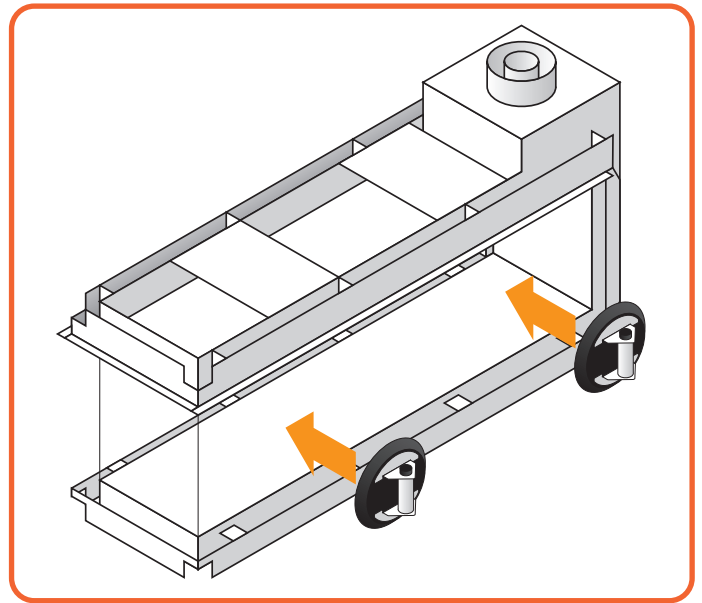

Figure 10.5 - Put on the suction cup
- Put the section cup on the glass and make sure it is properly vacuumed, so it will not come off. (See **Figure 10.5**)